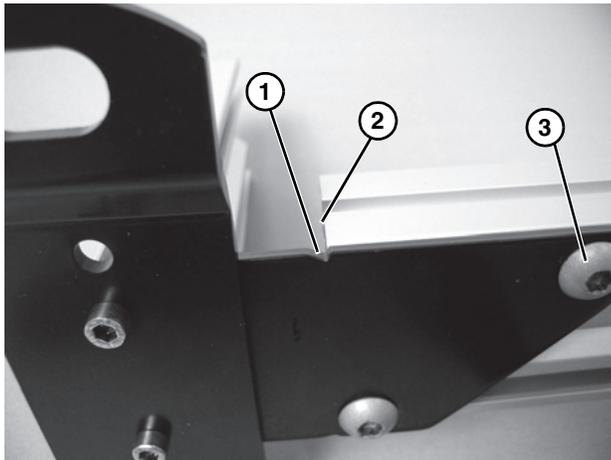

Figure 5
- Align notch (**Figure 5, item 1**) on leg assembly with edge of crossmember (**Figure 5, item 2**).
- Tighten button screws (**Figure 5, item 3**) to 150 in-lb (17 N-m).